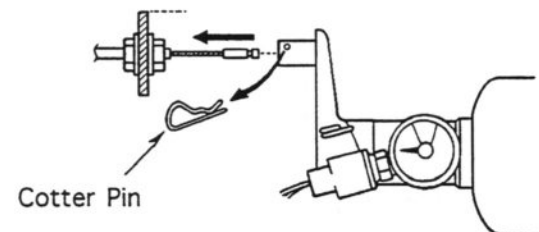

Figure 5
6. Disconnect cable coupling pin from cable coupling body by removing the cotter pin, P/N 79267 (Figure 5).